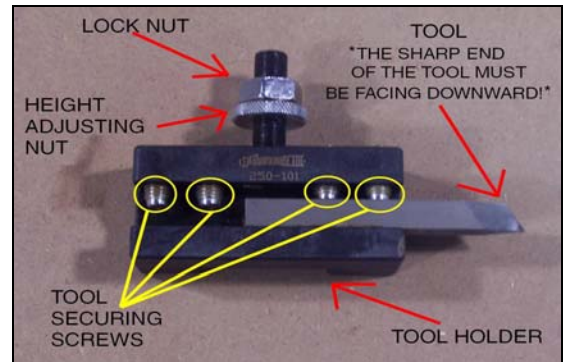

Figure 5.0
- The cutting edge of the **TOOL** **must** be facing **downward** when placed in the **TOOL HOLDER**. (Figure 5.0)